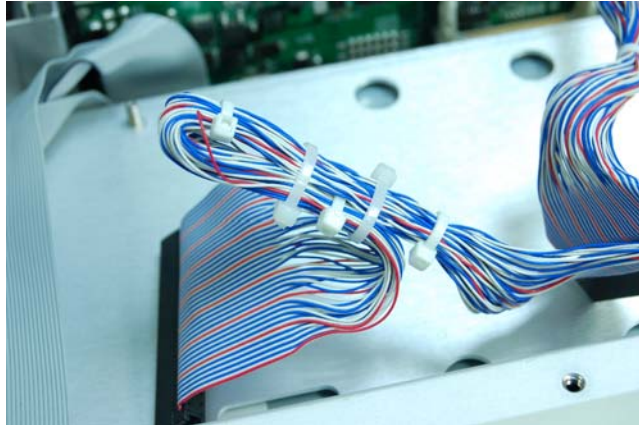

Figure 10: IDE cable wrapped with cable ties
7. Wrap the black end connector back against the IDE cable and secure it with two cable ties as shown in Figure 10.